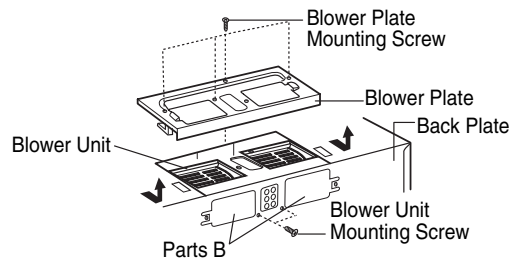

Figure 21
1. Remove one or two blower unit mounting screw(s) and one or several blower plate mounting screw(s). Remove the blower plate. See Figure 21.